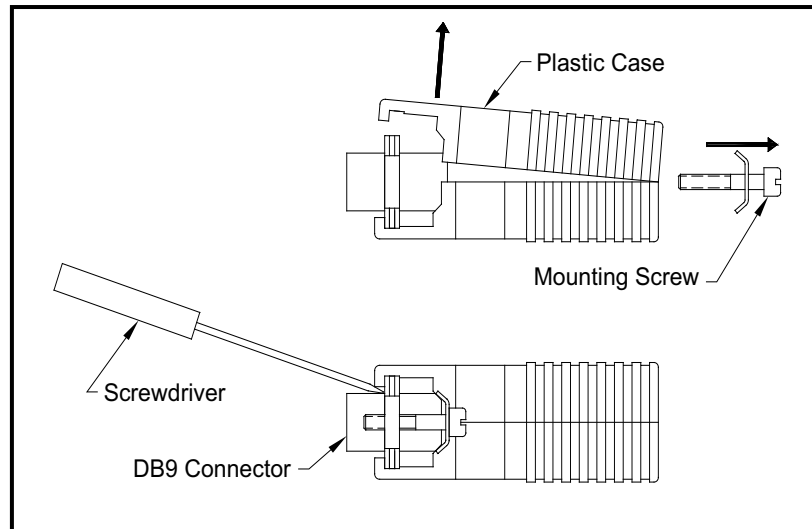

Figure 10: Opening the Converter Case
5. Use a small screwdriver to pry open the *plastic case* of the serial interface converter, as shown in *Figure 10 on page 74*.